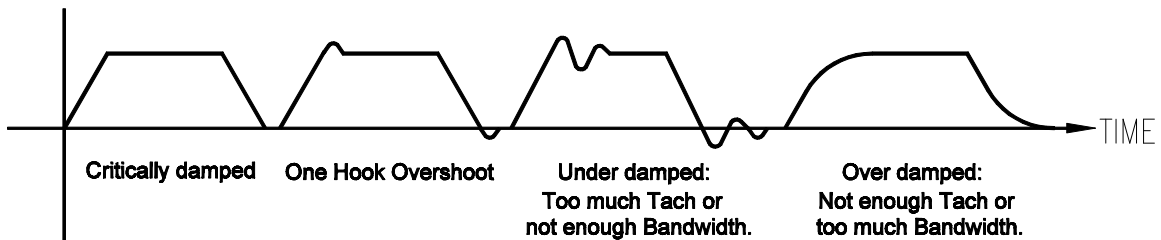

Figure 6.1
6. Pulse the input and compare the waveform with figure 6.1.